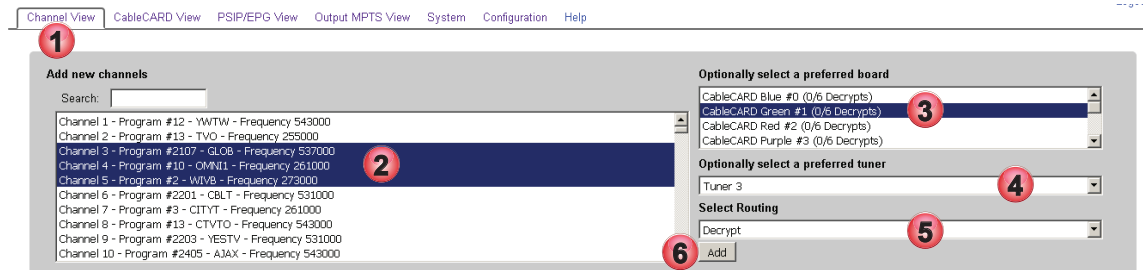

Figure 2-2: Add Programs
1. Click to select the **Channel View** tab if it isn’t already selected, Figure 2-2.